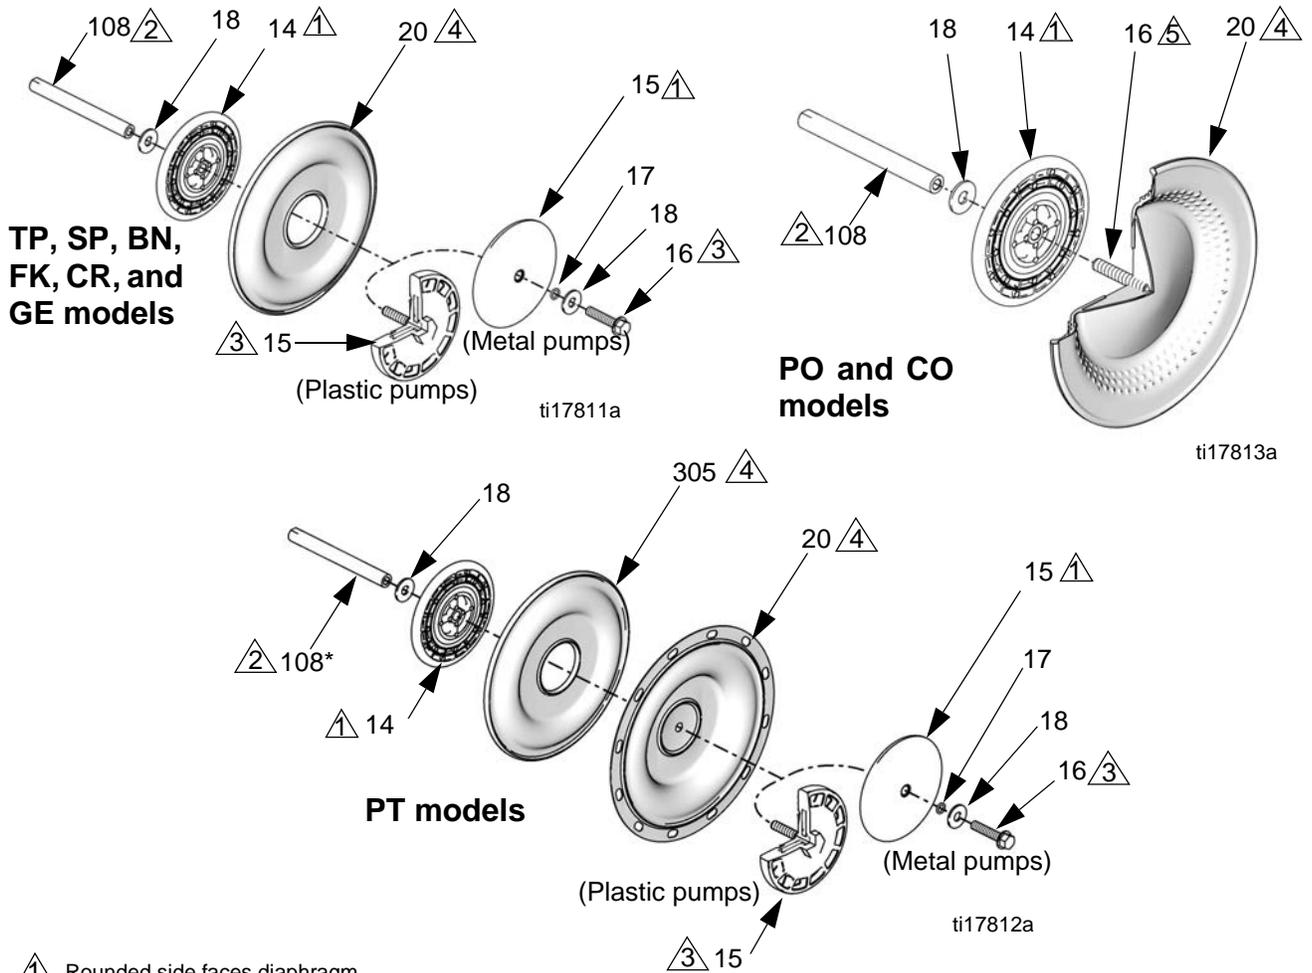

FIG. 7. Assemble diaphragms
- a. Orient the pump so one of the fluid covers faces up. Use a 3/4 in. (19 mm) socket wrench to remove the fluid cover bolts (36, 37), then pull the fluid cover (2) up off the pump.
- b. The exposed diaphragm (20) will screw off by hand. The shaft will either release and come off with this diaphragm, or remain attached to the other diaphragm. If the diaphragm shaft bolt (16) remains attached to the shaft (108), remove it. Remove the air side diaphragm plate (14) and washer (18).
- d. If the shaft is still attached to either diaphragm, grasp the diaphragm firmly and use a wrench on the flats of the shaft to remove. Also remove the air side diaphragm plate (14) and washer (18). Continue with Step 5.
- a. Orient the pump so one of the fluid covers faces up. Use a 3/4 in. (19 mm) socket wrench to remove the fluid cover screws (36, 37), then pull the fluid cover (2) up off the pump. Turn the pump over and remove the other fluid cover.
- b. **Plastic Pumps:** Hold the hex of one fluid side diaphragm plate (15) with a 1-5/8 socket or box end wrench. Use another wrench (same size) on the hex of the other plate to remove. Then remove all parts of the diaphragm assembly. See FIG. 7.
Metal Pumps: Turn the pump on its side. Hold one diaphragm shaft bolt (16) with a wrench, then use a 15/16 socket to remove the other bolt. Remove all parts of the diaphragm assembly. See FIG. 7, page 17.
5. Use an o-ring pick to remove the u-cup packings (101) from the center housing. Bearings (109) can remain in place.
6. If necessary, remove the pilot valves (110).
Follow all notes in FIG. 7. These notes contain important information.
3. For metal pumps, install the washer (18) and o-ring (17) on the shaft bolt (16).
4. Assemble the fluid side plate (15), the diaphragm (20), the backup diaphragm (305), the air side diaphragm plate (14), and the washer (18) on the bolt exactly as shown in FIG. 7.
5. Apply medium-strength (blue) Loctite or equivalent to the bolt (16) threads. Assemble into shaft. Torque the bolt to 110 -120 ft-lb (149-163 N•m) at 100 rpm maximum.
8. Apply medium-strength (blue) Loctite or equivalent to the bolt (16) threads. Screw the bolt into the shaft hand tight.
1. Install the washer (18) and o-ring (17) on the shaft bolt (16).
2. Assemble the fluid side plate (15), the diaphragm (20), the air side diaphragm plate (14), and the washer (18) on the bolt exactly as shown in FIG. 7.
3. Apply medium-strength (blue) Loctite or equivalent to the bolt (16) threads. Screw the bolt into the shaft hand tight.
7. Reattach one fluid cover (2). Arrow (A) must point toward the air valve. See **Torque Instructions**, page 20.
1. Assemble the diaphragm (20), the air side diaphragm plate (14), and the washer (18) on the fluid side plate (15) exactly as shown in FIG. 7.
6. Reattach one fluid cover (2). Arrow (A) must point toward the air valve. See **Torque Instructions**, page 20.